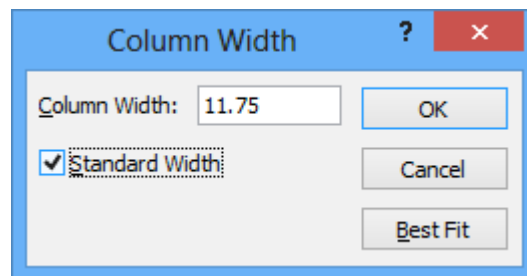

Figure 12: Column Width Window after Selecting the **Field Width** Item
- **Set Column Width:** The column width can be set only when the subform is in datasheet view. The easiest way to put the subform in datasheet view is to put the main form in form view. After placing the main form in form view, notice that some of the subform datasheet columns are too wide. To make the column sizes uniform, right-click on the heading of the first column to select the column and open the shortcut menu. Select the **Field Width** command and click the "Standard Width" check box in the window (Figure 12). You can also use the **Best Fit** button for a tighter fit. Repeat this process for each field in the subform datasheet. You may have to use the horizontal scroll bars to access the last few columns.